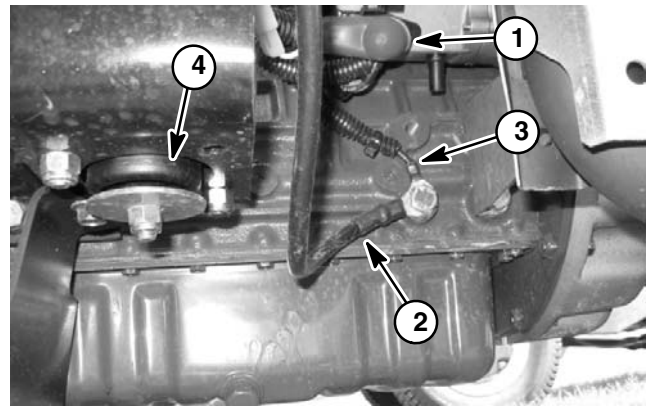

Figure 11
A. Remove positive battery cable, cable to accessory solenoid and fusible link connector from electric starter motor solenoid stud (Fig. 11). Remove cable tie that secures fusible link connector to starter.
C. Remove cap screw and lock washer that secure negative battery cable and wire harness ground wire to engine (Fig. 11).
12. Remove flange nuts, snubbing washers and cap screws securing the engine brackets to the machine frame (Fig. 11).
5. Using a hoist or lift, carefully raise engine assembly from under machine and position to frame. Insert cap screws through engine brackets and motor mounts from above (Fig. 11). Install flange nuts on cap screws and tighten nuts.